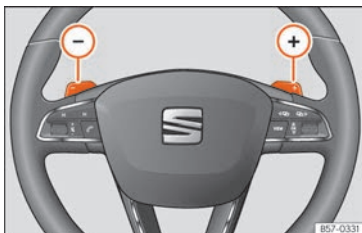

Fig. 223 Steering wheel: automatic gearbox levers
- Press the gearshift paddle **+** to select a higher gear »» **Fig. 223**.